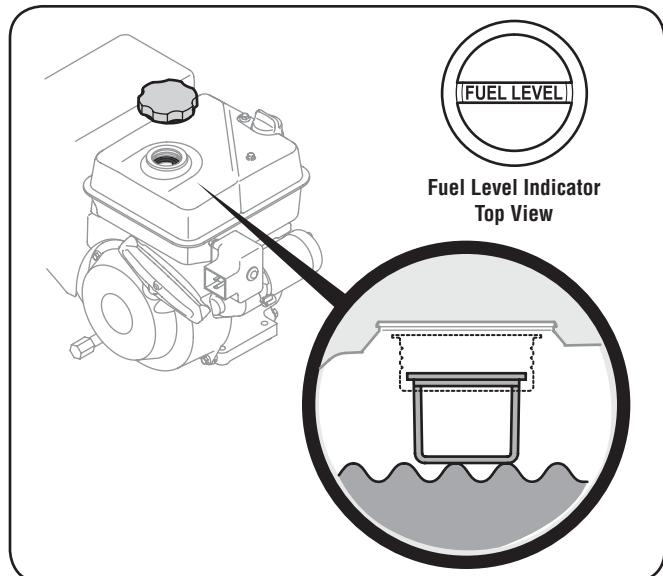

Figure 3-4
- NOTE:** On tanks with a fuel level indicator, fill the tank until the fuel reaches the "fuel full" indicator mark. See Fig. 3-4. All other tanks, fill tank until the fuel reaches a ½ inch below the bottom of the filler neck to allow space for fuel expansion. Be careful not to overfill.